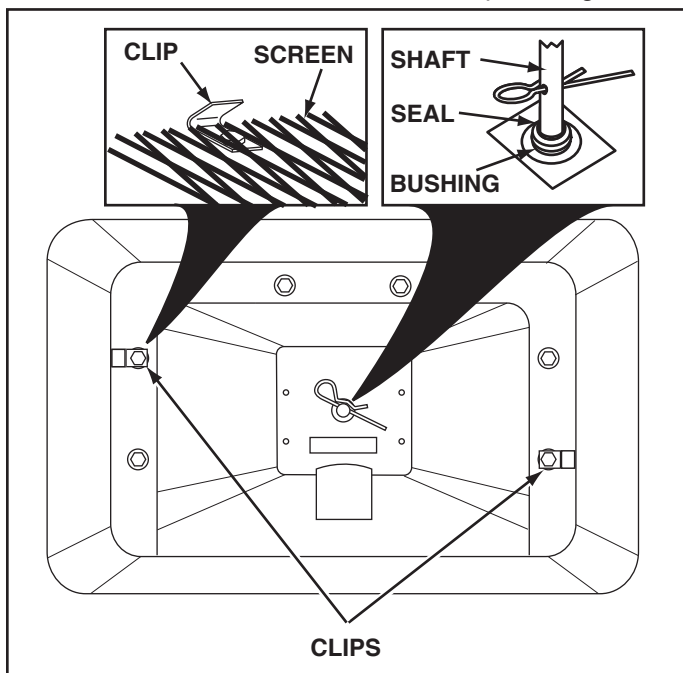

FIGURE 6
9. Place screen down into hopper. **DO NOT** place it under the clips in bottom of hopper at this time. See figure 6.
12. Lift screen up and slide seal down spreader shaft to rest against plastic bushing in bottom of hopper. See figure 6.
13. Slide one edge of the screen under one of the clips. Then, slightly bow the screen to slide the opposite side of the screen under the other clip. See figure 6.